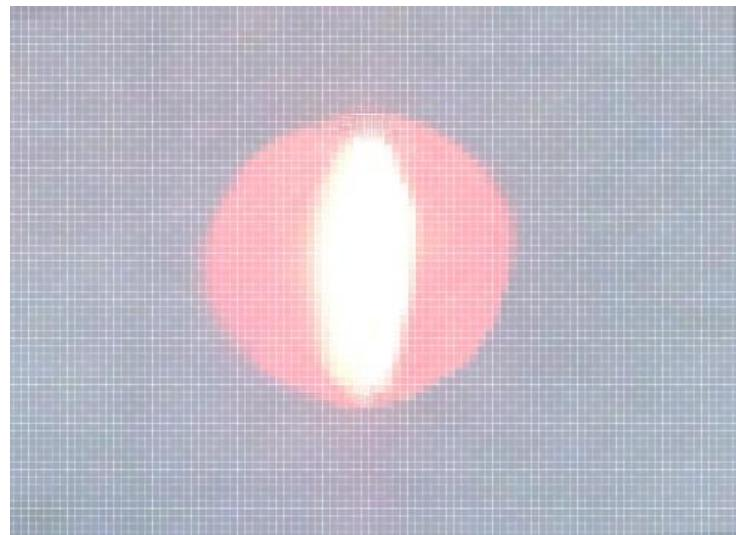

Figure 6-15 Light spot at the output exit
2. Check if the output spot is normal. Place a small piece of white paper near the output exit and observe the light spot. The ideal spot shape is a vertical ellipse which is clipped at both top and bottom, as shown in the left in Figure 6-15. The actual spot is as shown in the right in Figure 6-15 with a faint halo around it.